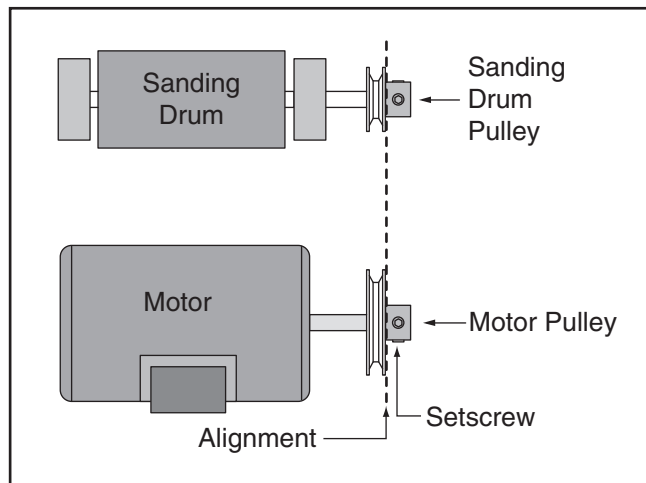

Figure 37. The pulleys should be parallel and aligned.
3. Looking from the top, sight down the V-belts and pulleys and check to see that the pulleys are parallel and aligned with each other (see **Figure 37**).
7. Tighten the set screws, replace the V-belts, and repeat **Step 3**. Belts should be parallel and aligned as shown in **Figure 37**.